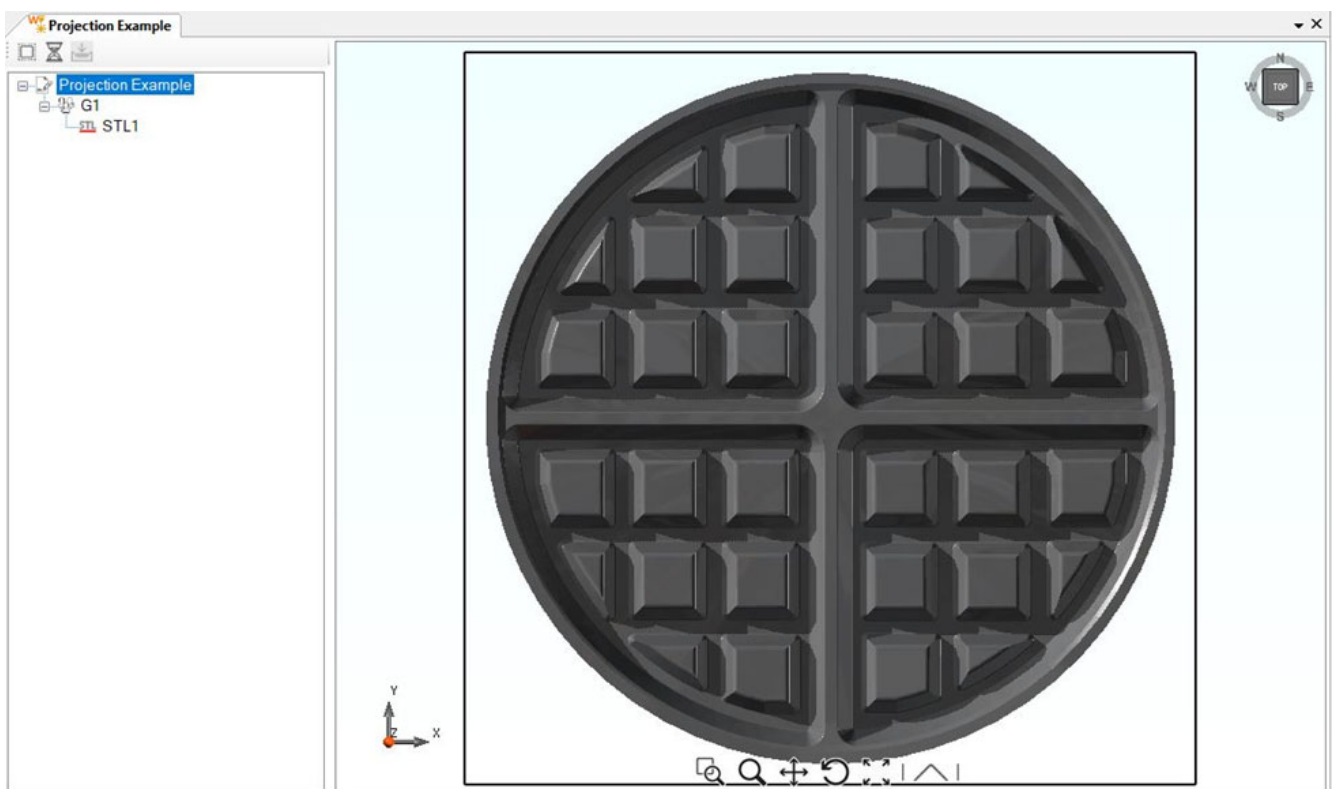

Figure 132: Importing an STL Model
3. Import an STL model. See Figure 132 (below).